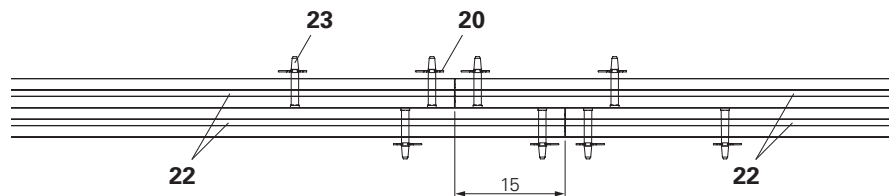
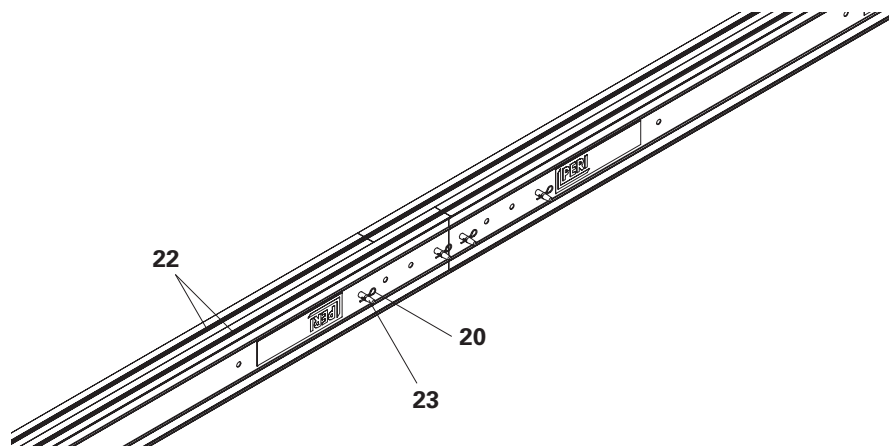

Fig. A6.05a
Fig. A6.05
- If extended units are used as twin main beams, the bolts $\text{Ø}20 \times 140 \text{ mm ga}$ (**23**) must point outwards. (Fig. A6.05 + Fig. A6.05a)
- The joints must be arranged at least 15 cm offset from one another. (Fig. A6.05a)